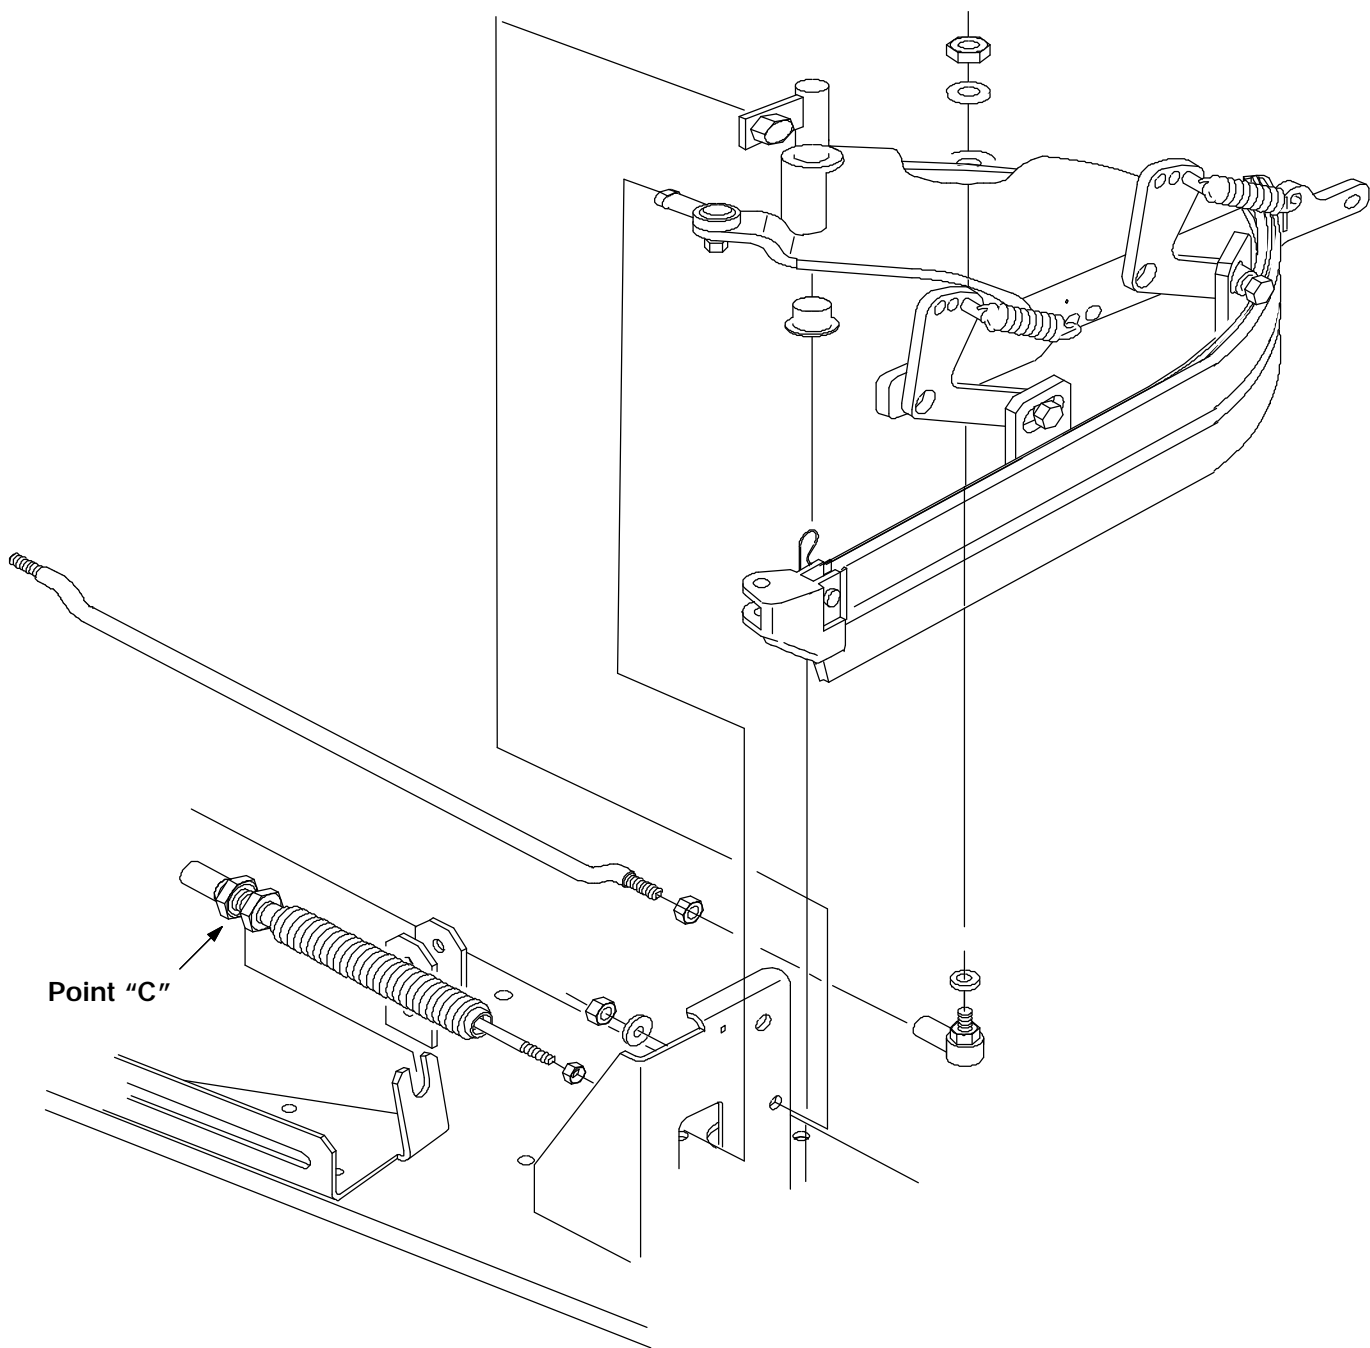

FIG. 1 - Replacement of Side Squeegee Assemblies and Installation of Side Squeegee Stabilizing Rod on Left Hand Side of Machine
(Refer to FIG. 1 and 2)
1. Remove the side squeegee stabilizing rod at the left side squeegee. *Refer to Fig. 1.*
2. Remove and discard the side squeegee assemblies. *Refer to Fig. 1 and 2.*
3. Install new side squeegee assemblies (1) and (2).
4. Install the side squeegee stabilizing rod into the hole in the left hand side squeegee mount plate with the old hardware. *Refer to Fig. 1.*
6. The front tip of the left side squeegee should point away from the machine approximately 2° while scrubbing. If not, make sure the cable ball joint is threaded all the way onto the cable and tightened with a jam nut. If the squeegee tip is still not pointing outward, adjust at point "C." **DO NOT** adjust at ball joint. *Refer to Fig. 1.*